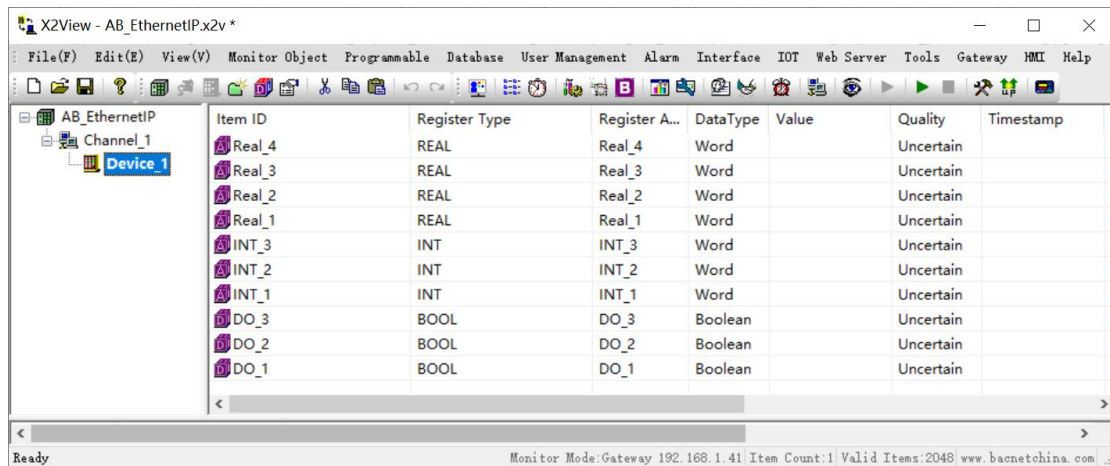

Figure 2-28-6 Label addition completed
② The register address is the Name attribute of the tag Tags in RSLogix5000; Label addition completed. As shown in Figure 2-28-6.